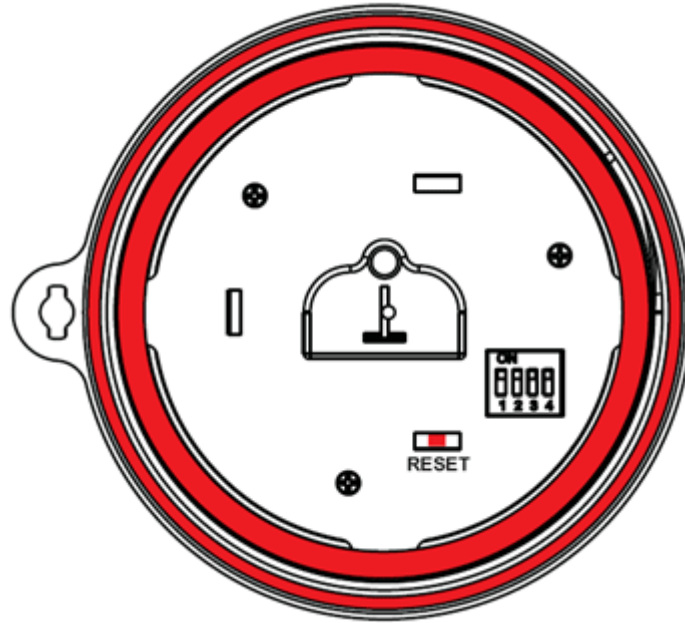

Figure 7
(1) temperature
- (2) temperature units (°F vs. °C)
- (3) channel number
6. Close the battery door. Make sure both red colored gaskets are properly seated in their traces prior to closing the battery door, as shown in Figure 7. Failure to properly seal the floating thermometer will result in water leakage and damage.